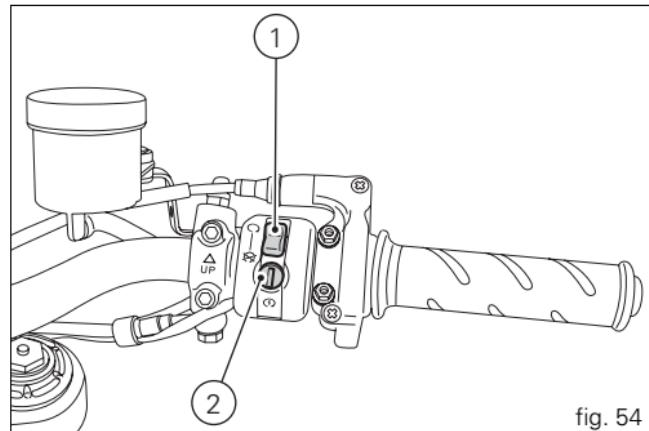

fig. 54
- 2) Make sure that the stop switch (1, fig. 54) is in the $\textcircled{\text{O}}$ (RUN) position, then press the starter button (2).